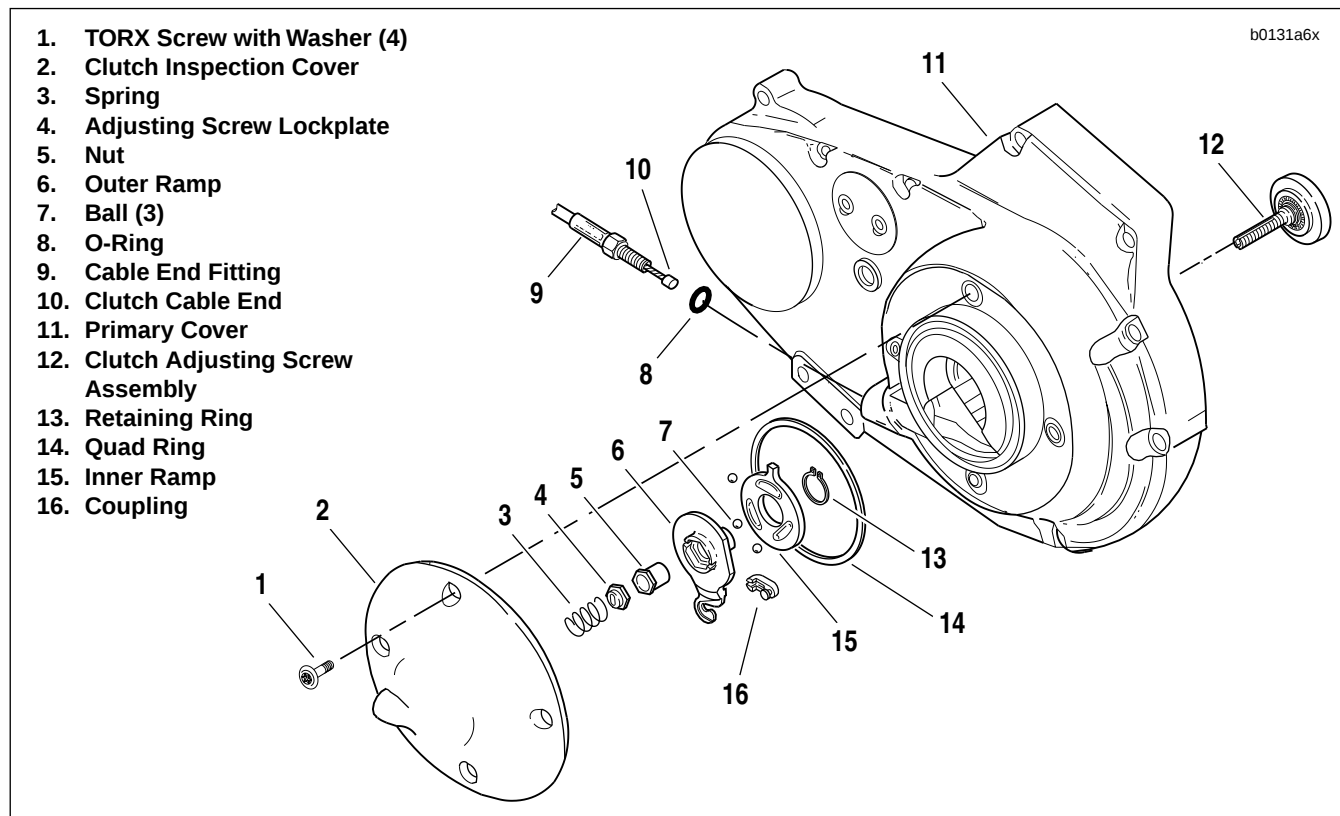
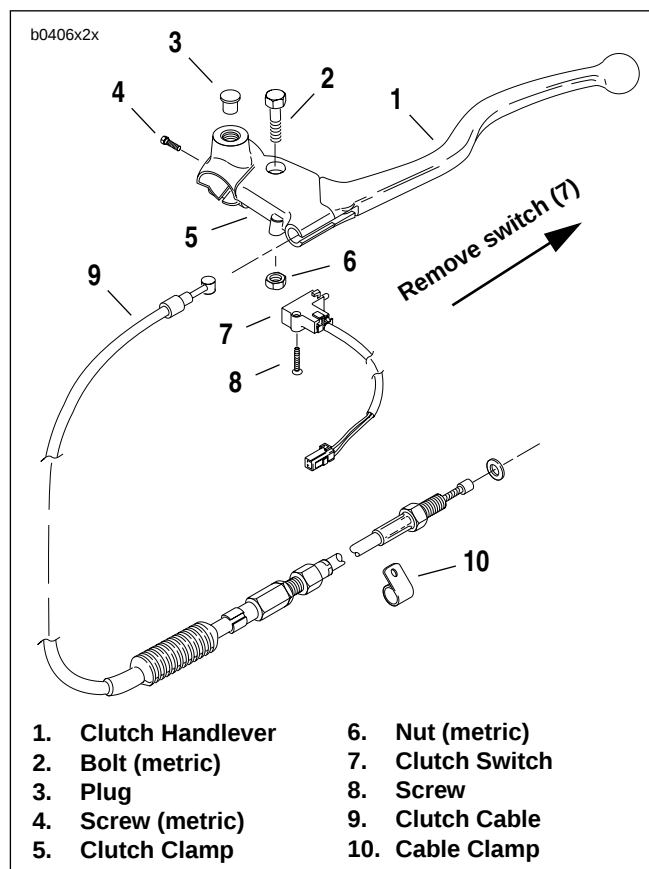
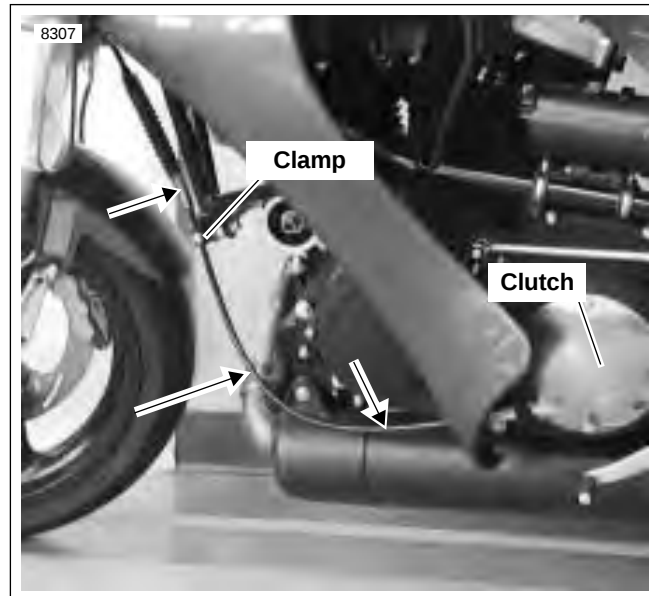

Figure 2-83. Clutch Release Mechanism
Figure 2-84. Clutch Hand Control
Figure 2-85. Clutch Cable Routing, Lower
2. See Figure 2-83. Remove four TORX screws (1) with washers and clutch inspection cover (2). Do not damage or dislodge quad ring (14) in primary cover (11).
3. Slide spring (3) with attached hex lockplate (4) from flats of adjusting screw (12).
4. Turn adjusting screw clockwise to release ramp and coupling mechanism. As the adjusting screw is turned, ramp assembly moves forward. Unscrew nut (5) from end of adjusting screw.
5. Remove hook of ramp (6) from button at the rear of cable end coupling (16). Remove cable end (10) from slot in coupling.
6. Turn cable end fitting (9) counterclockwise to remove clutch cable lower section from primary cover (11). Remove O-ring (8) from cable end fitting.
1. See Figure 2-84. Detach clutch switch (7).
- a. Remove screw (8).
1. See Figure 2-83. Install O-ring (8) over cable end fitting (9) of clutch cable lower section. Turn fitting clockwise to install into primary cover (11). Tighten to 3-7 ft-lbs (4-12 Nm).
2. Fit coupling (16) over cable end. Place hook of ramp around coupling button and rotate assembly counter-clockwise until tang on inner ramp (15) fits in slot of primary cover (11).
3. Thread nut (5) on adjusting screw (12) until slot of screw is accessible with a screwdriver. Fit nut hex into recess of outer ramp (6) and turn adjusting screw counter-clockwise.
- a. See Figure 2-85. Route cable along left side of primary chaincase and up through clamp on front isolator tie bar.
1. See Figure 2-84. Attach clutch clamp (5) as follows.
- c. Place clamp next to switchgear housing. Fasten to handlebar with screw (4) (metric). Tighten to 30-35 **in-lbs** (3-4 Nm).
3. Apply small amount of LOCTITE ANTI-SEIZE LUBRICANT to bolt (2). Attach handlever with bolt (2) (metric) and nut (6) (metric).
4. Attach clutch switch (7) with screw (8).
- c. See Figure 2-85. Route cable down left side of bike, through clamp, along primary chaincase to clutch.